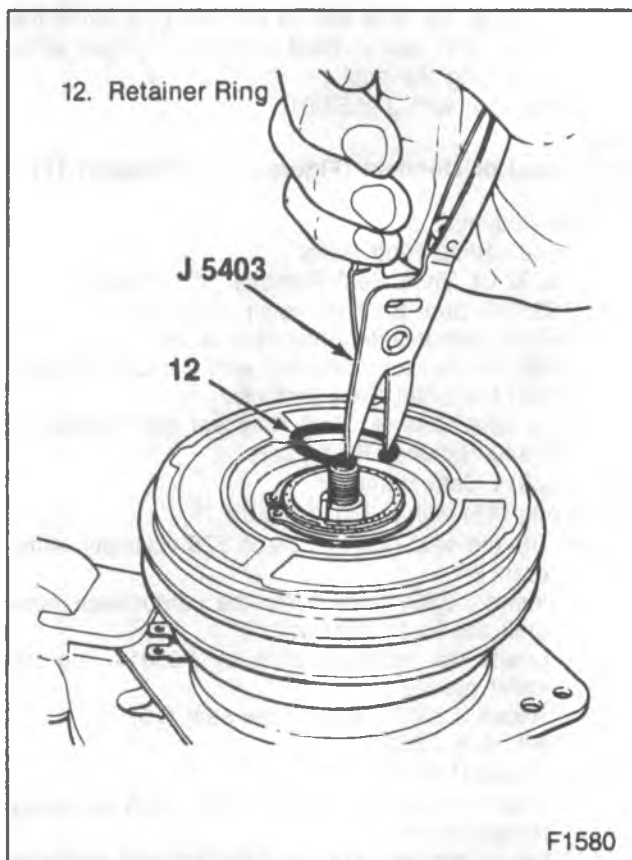

Figure 13—Removing/Installing the Shaft Seal Retaining Ring
- The inside of the compressor around the shaft (38). Prevent dust and dirt from entering the compressor.
2. Sleeve retainer (10).
3. Absorbent felt sleeve (11).
4. Shaft seat retaining ring (12) with J 5403 (figure 13).
- Do not dislodge the seal (O-ring) (15).
4. Seal shaft retainer ring (12) with J 5403 (figure 13).